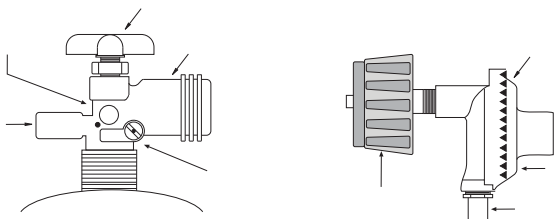

Figure 2A Type I Acme Thread Quick Coupler
- e. Pressure regulator and hose assembly (Figure 2A) supplied with this outdoor cooking gas appliance must be used. Original and replacement pressure regulator and hose assemblies must be those specified by Robert H. Peterson Co. for connection with a cylinder connecting device identified as Type I by the Harmonized Standard ANSI Z 21.58 and CGA 1.6-M95-1995 with Addenda ANSI Z 21.58a -1998 and CGA 1.6a - M98.
To disconnect: Turn the hand nut counterclockwise until detached. (Figure 2A).